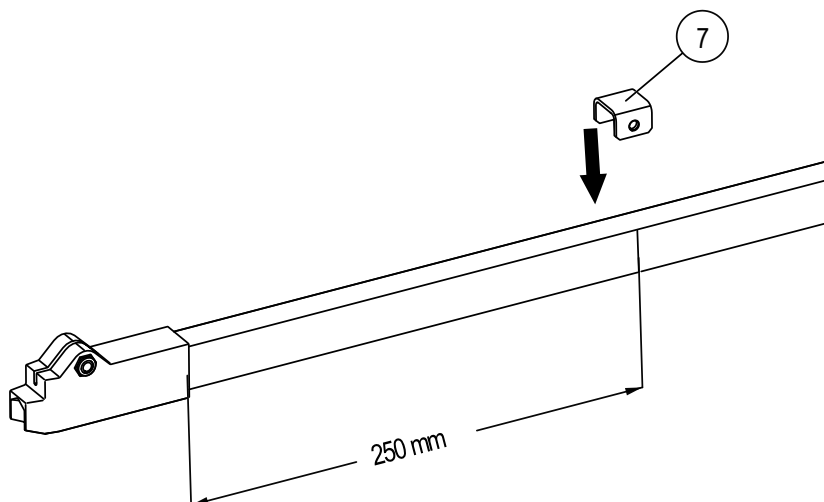

Fig. 19: Slide U-plate (Pos. 7) onto conductor rail
- The U-plate hole (Pos. 7) must be centrally aligned with the marked point on the conductor rail (see Fig. 19).